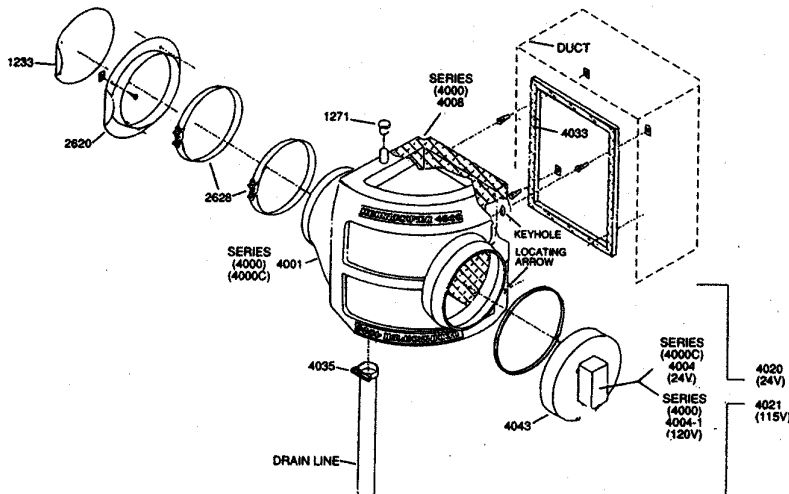

FIGURE 1 - INSTALLATION/HARDWARE
1. For best results, the unit should be located on the return air side of the system. However, if space does not permit, it can also be located on the supply (warm air) side of the system. Capacity will be reduced when mounted on the supply side. The bypass connection can be made to the left or right side of the unit. Regardless of where the unit is mounted (supply/return air) or left/right connection, the end cap must always be positioned so that the water connection is at the BOTTOM of the humidifier. See FIGURE 1.
2. To mount on **sheet metal duct** begin by drilling  $5/32$ " diameter holes and cutting opening as marked on template. Remove template, install the four (4) sheet metal screws with standoffs using spring nuts provided, then place the foam seal around the opening on the plenum. See sketch below. Remove end cap from the notched end of the humidifier. Check that evaporator pad is in the proper position, then "hang" the humidifier on the mounting screws. Unit may be hung with outlet flange pointing left or right as required. Note the directional arrows located on the housing. Remove the plastic protective cap from nozzle and then snap end cap onto the humidifier with the pigtail water connection at the bottom of the cap.